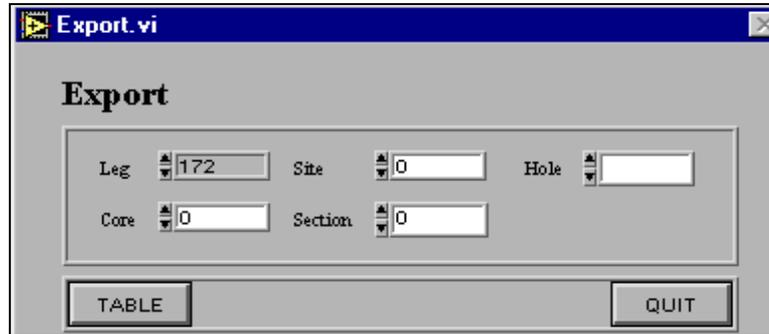

Figure 22. The “Export” window.
1. From the main menu, click on **Export** to open the “Export” window (See Figure 22).